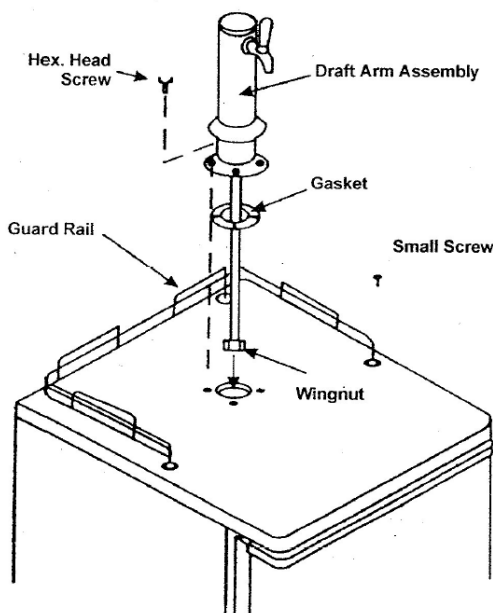

Fig. 1
3. Install Draft Arm Assembly (See Fig. 1).
4. Install Guard Rail (See Fig. 1).